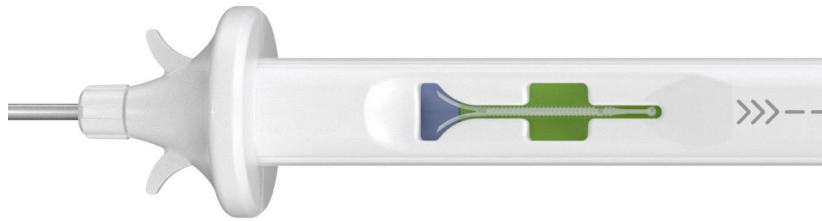

Figure 5: Delivery Device with Implant Loaded
5. Using sterile surgical forceps transfer the Implant from the plastic tray to the implant loading port of the Delivery Device as shown in **Figure 5**.